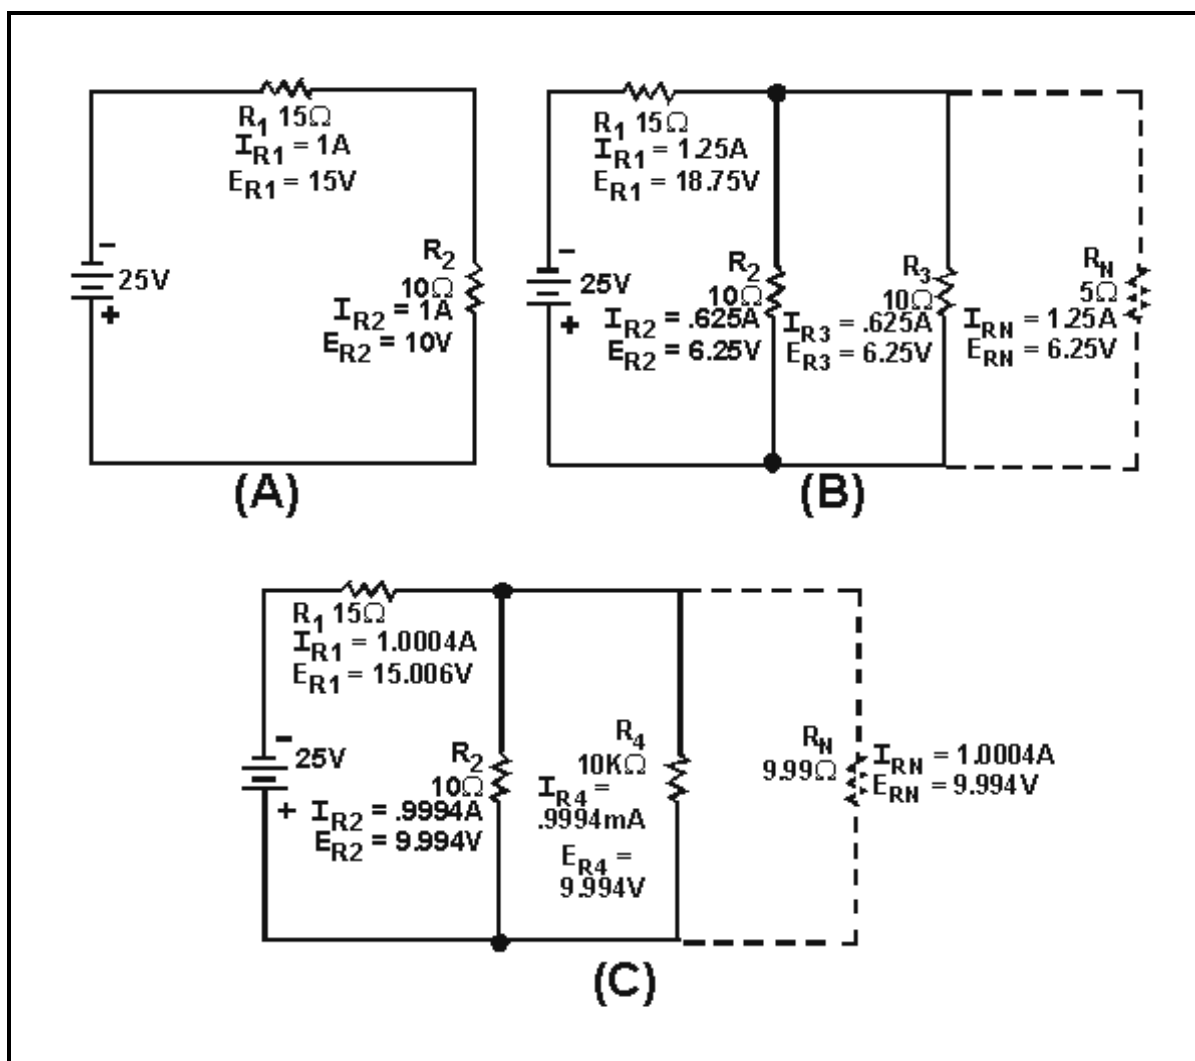

Figure 1-26.—The loading effect.
A voltmeter has an effect on the circuit being measured. This is called **LOADING** the circuit. Figure 1-26 illustrates the loading effect and the way in which the loading effect is kept to a minimum.
In figure 1-26(A), a series circuit is shown with R_1 equaling 15 ohms and R_2 equaling 10 ohms. The voltage across R_2 (E_{R2}) equals 10 volts. If a meter (represented by R_3) with a resistance of 10 ohms is connected in parallel with R_2 , as in figure 1-26(B), the combined resistance of R_2 and R_3 (R_N) is equal to 5 ohms. The voltage across R_2 and R_3 is now 6.25 volts, and that is what the meter will indicate. Notice that the voltage across R_1 and the circuit current have both increased. The addition of the meter (R_3) has loaded the circuit.
In figure 1-26(C), the low-resistance meter (R_3) is replaced by a higher resistance meter (R_4) with a resistance of 10 kilohms. The combined resistance of R_2 and R_4 (R_N) is equal to 9.99 ohms. The voltage across R_2 and R_4 is now 9.99 volts, the value that will be indicated on the meter. This is much closer to the voltage across R_2 , with no meter (R_3 or R_4) in the circuit. Notice that the voltage across R_1 and the circuit current in figure 1-26(C) are much closer to the values in 1-26(A). The current (I_{R4}) through the meter (R_4) in figure 1-26(C) is also very small compared to the current (I_{R2}) through R_2 . In figure 1-26(C) the meter (R_4) has much less effect on the circuit and does not load the circuit as much. Therefore, a voltmeter should have a high resistance compared to the circuit being measured, to minimize the loading effect.